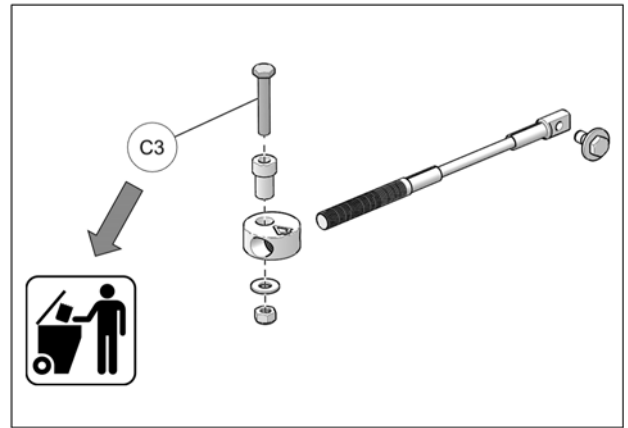

Fig. 24
14. Discard bolts (C3) included in Steering limiter cable kits. They are not needed for installation on this particular vehicle model. See Fig. 24